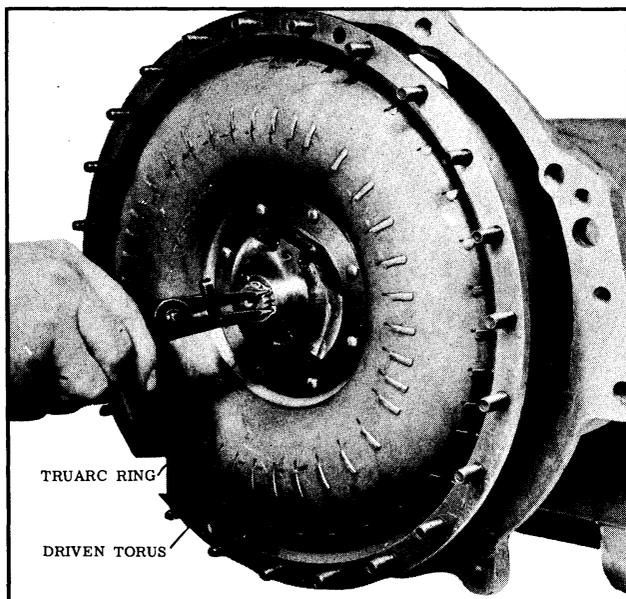

Fig. 3-20 Removing Driven Torus
3. Remove the Tru-arc ring and the driven torus from the mainshaft. (See Fig. 3-20)